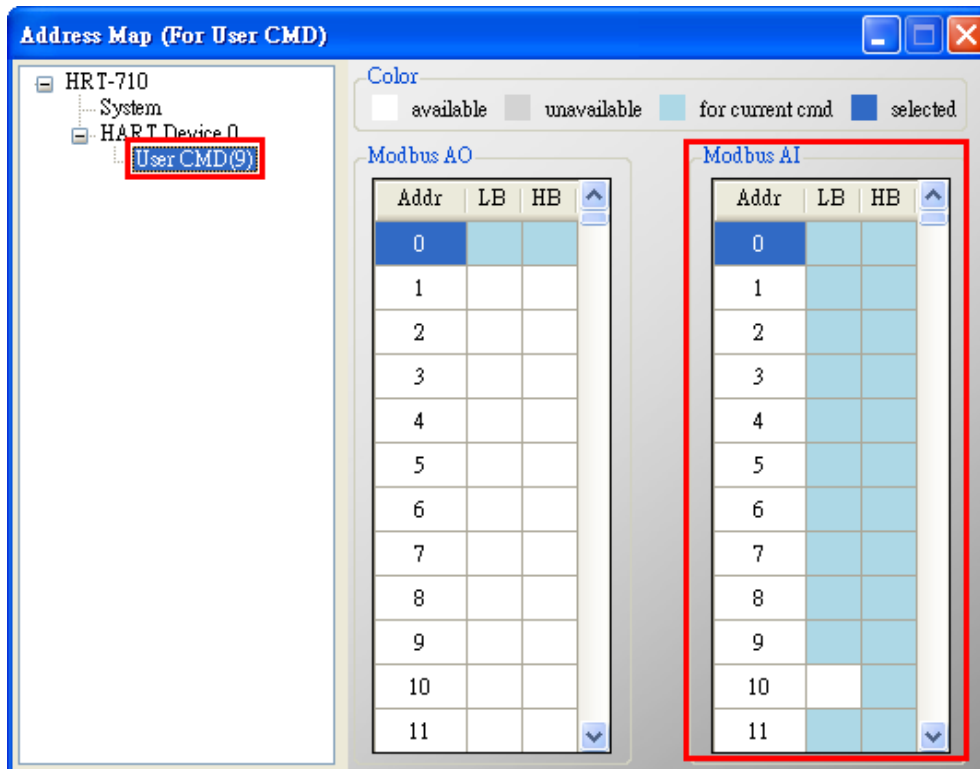

Figure 30-9
<1> In the “Address Map” screen, click the “UserCMD(9)” item. In the “Modbus AI” area, the blue grid will be the address of the received data of UserCMD(9) like Figure 30-9. In the example, it needs 23 bytes (response code (2B) + response data (21B)) for HART command 9. Therefore, it will occupy 12 modbus address from 0 to 11.